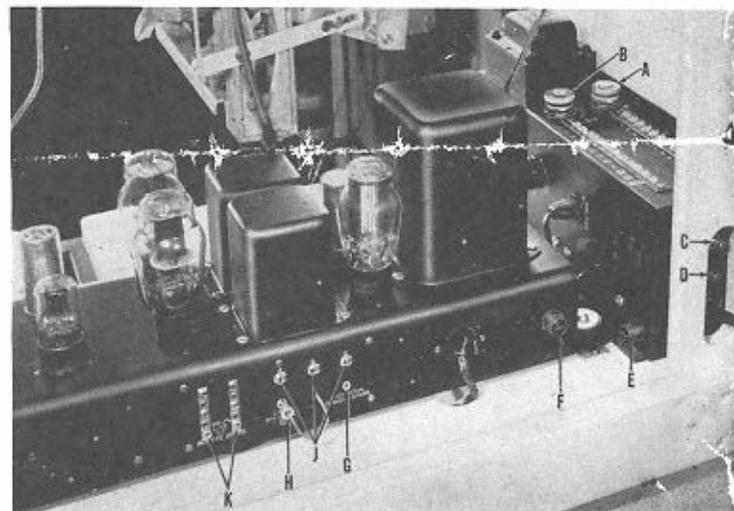

Fig. 3 – Inside Rear Door
1. Master line switch (C-*Fig. 3*).
2. Cabinet light switch (D-*Fig. 3*).
3 amp. fustat (A-Fig. 3) for 24 volt system, coin mechanism, remote control.
5 amp. fustat (B-Fig. 3) for lights.
10 amp. fuse (E-Fig. 3) for 110 volt master line.
3 amp. fuse (110 volt) (F-Fig. 3) for amplifier.
- B. Connect the two-wire line to the terminals labeled "500 ohm line to remote speakers" on the amplifier terminal board (K-Fig. 3).
- C. Move the jack plug (H-Fig. 3) on the amplifier terminal board from the "Local Speaker Only" position to the "Additional Remote Speakers" position (G-Fig. 3).
- B. Connect the two-wire line to the terminal labeled "500 ohm line to remote speakers" on the amplifier terminal board (K-Fig. 3).
- C. Move the jack plug on the amplifier terminal board from the "Local Speaker Only" (H-Fig. 3) to the "Additional Remote Speakers" (G-Fig. 3) position.
- (1) IF TWO (2) REMOTE SPEAKERS ARE USED- Connect the speaker voice coil leads to the matching transformer taps labeled "Common" and "No. 2".
- (2) IF THREE (3) REMOTE SPEAKERS ARE USED- Connect the speaker voice coil leads to the matching transformer taps labeled "Common" and "No. 3".
- (3) IF FOUR (4) REMOTE SPEAKERS ARE USED- Connect the speaker voice coil leads to the matching transformer taps labeled "Common" and "No. 4".
3. "L" PAD FOR SEPARATE CONTROL OF LOCAL SPEAKER- The volume of the local speaker may be controlled without affecting the level of the remote speakers by means of the "L" pad (Purchase optional) which is attached by removing the jumper connection at (J-Fig. 3) and connecting to contact screws A, B, and C (J-Fig. 3) on the amplifier terminal board. The jumper must be replaced when the "L" pad is not used.